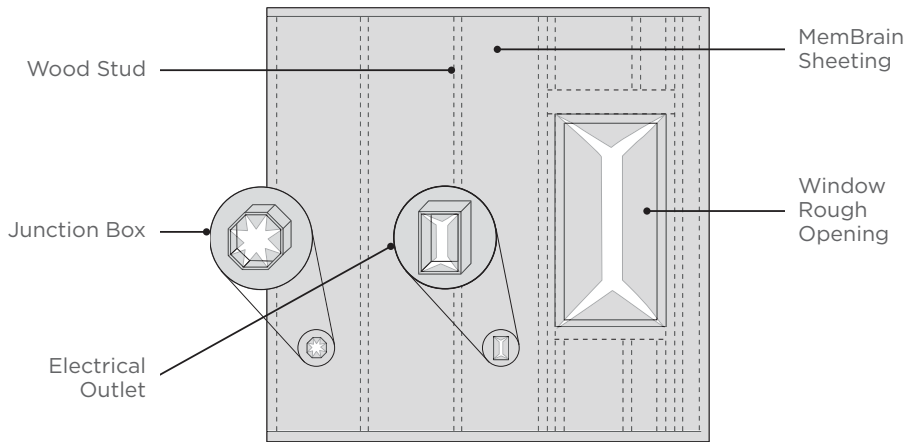

Figure 7: Cut MemBrain sheeting to tightly fit penetrations
- Cut and fit the MemBrain sheeting tightly around the penetrations. (See Figure 7)
Figures 7 through 10
- Slit the film at the corners. (See Figure 7)